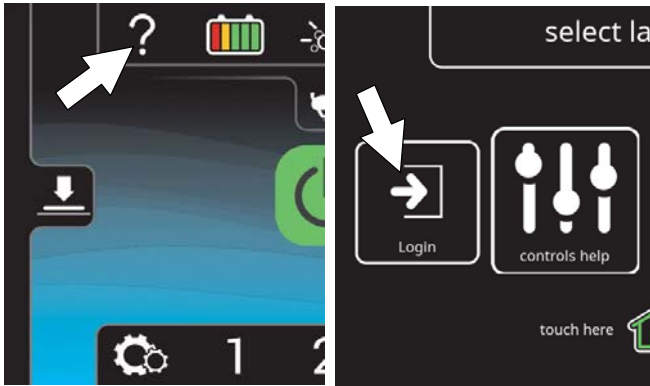

FIG. 183
2. Press the help button and log into the machine as supervisor mode (Figure 183). See *Entering the Supervisor Mode*.